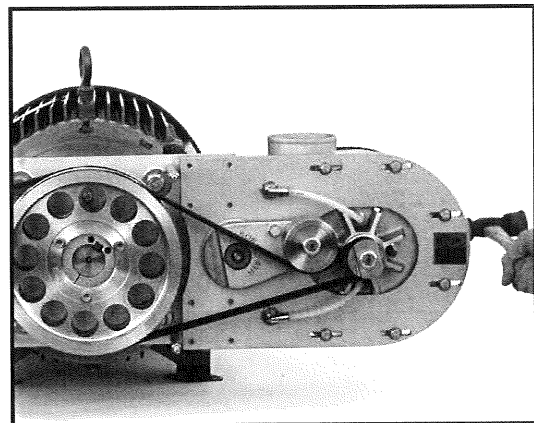

Figure 27 - Adjust Gap
7. If a $\frac{3}{4}$ inch belt gap was not achieved, use a $\frac{1}{2}$ inch box-end wrench to loosen the blower head screws and slide the head. (See Figure 27)(See Section 7.2 - Torque Specifications)